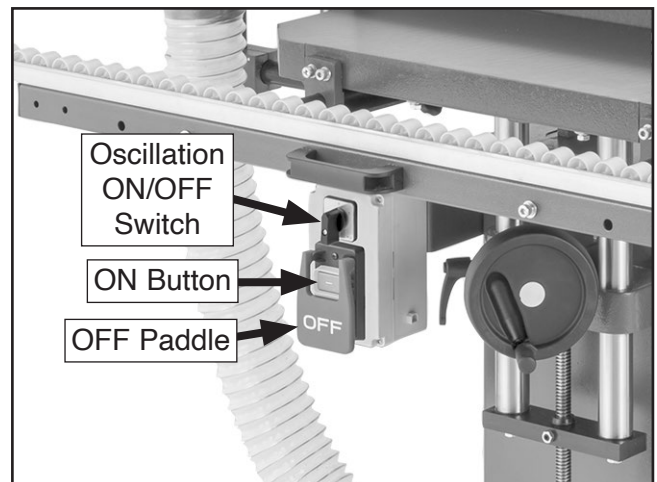

Figure 28. Power controls.
4. Move oscillation ON/OFF switch to OFF (0) position (see **Figure 28**).
8. Use ON button (–) and OFF paddle (see **Figure 28** on **Page 22**) to start and immediately stop machine, while watching how sanding belt tracks on rollers. "Tracking" refers to sanding belt positioning on rollers when sanding belt rotates. When tracking properly, sanding belt remains centered on rollers as they rotate.